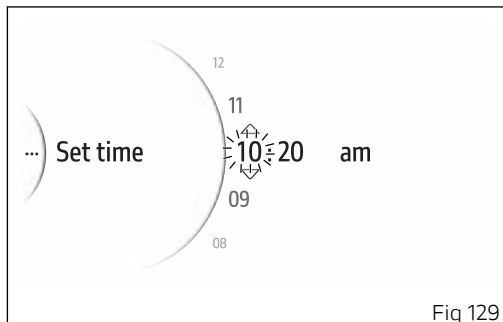

Fig 129
- Use buttons (1) and (2) from the Interactive Menu to select the "Setting menu" item and press ENTER (3).
- Select the "Date and time" item and press ENTER (3).
- Select the "Set time" item and press ENTER (3).
The hour number becomes flashing and is displayed with two arrows placed above and below it; the available values are also displayed (Fig 129). Use buttons (1) and (2) to scroll and select the desired value. Press ENTER (3) to confirm and move on to the following parameter.